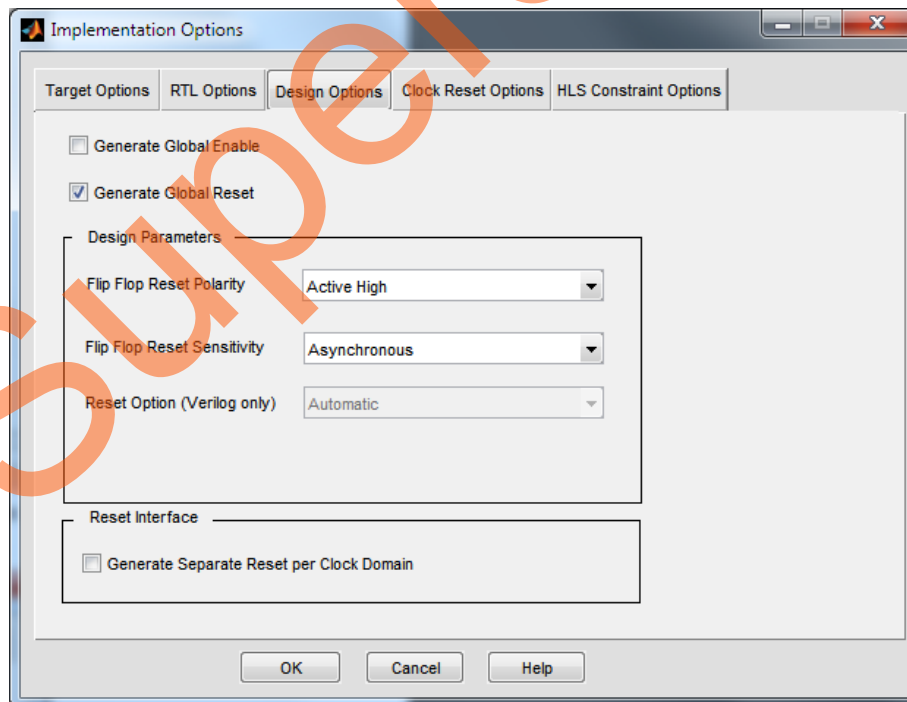

Figure 9. Implementation Options - Design Options tab
11. Click the **Design Options** tab and set the options, as shown in Figure 9.
The Flip Flop Reset Sensitivity can either be Synchronous or Asynchronous, as shown in Figure 9.